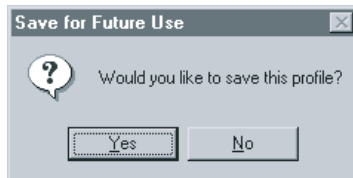

Figure 6
- Once you have entered the correct scale and unit data, click on OK to proceed. The screen in Figure 6 will appear giving you the opportunity to save the entered data for future use. Click on Yes to save the data or No to bypass saving the data and use one time only.